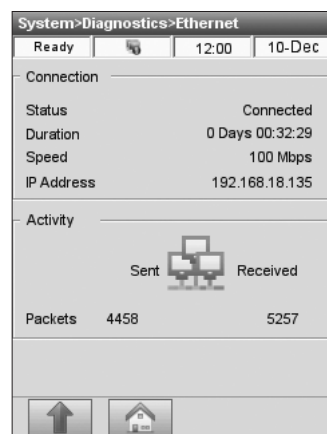

Fig. 3-95 Ethernet Test
3. Verify that the test status is **<Connected>** and that the displayed instrument IP address is valid (not all zeros) (Fig. 3-95).